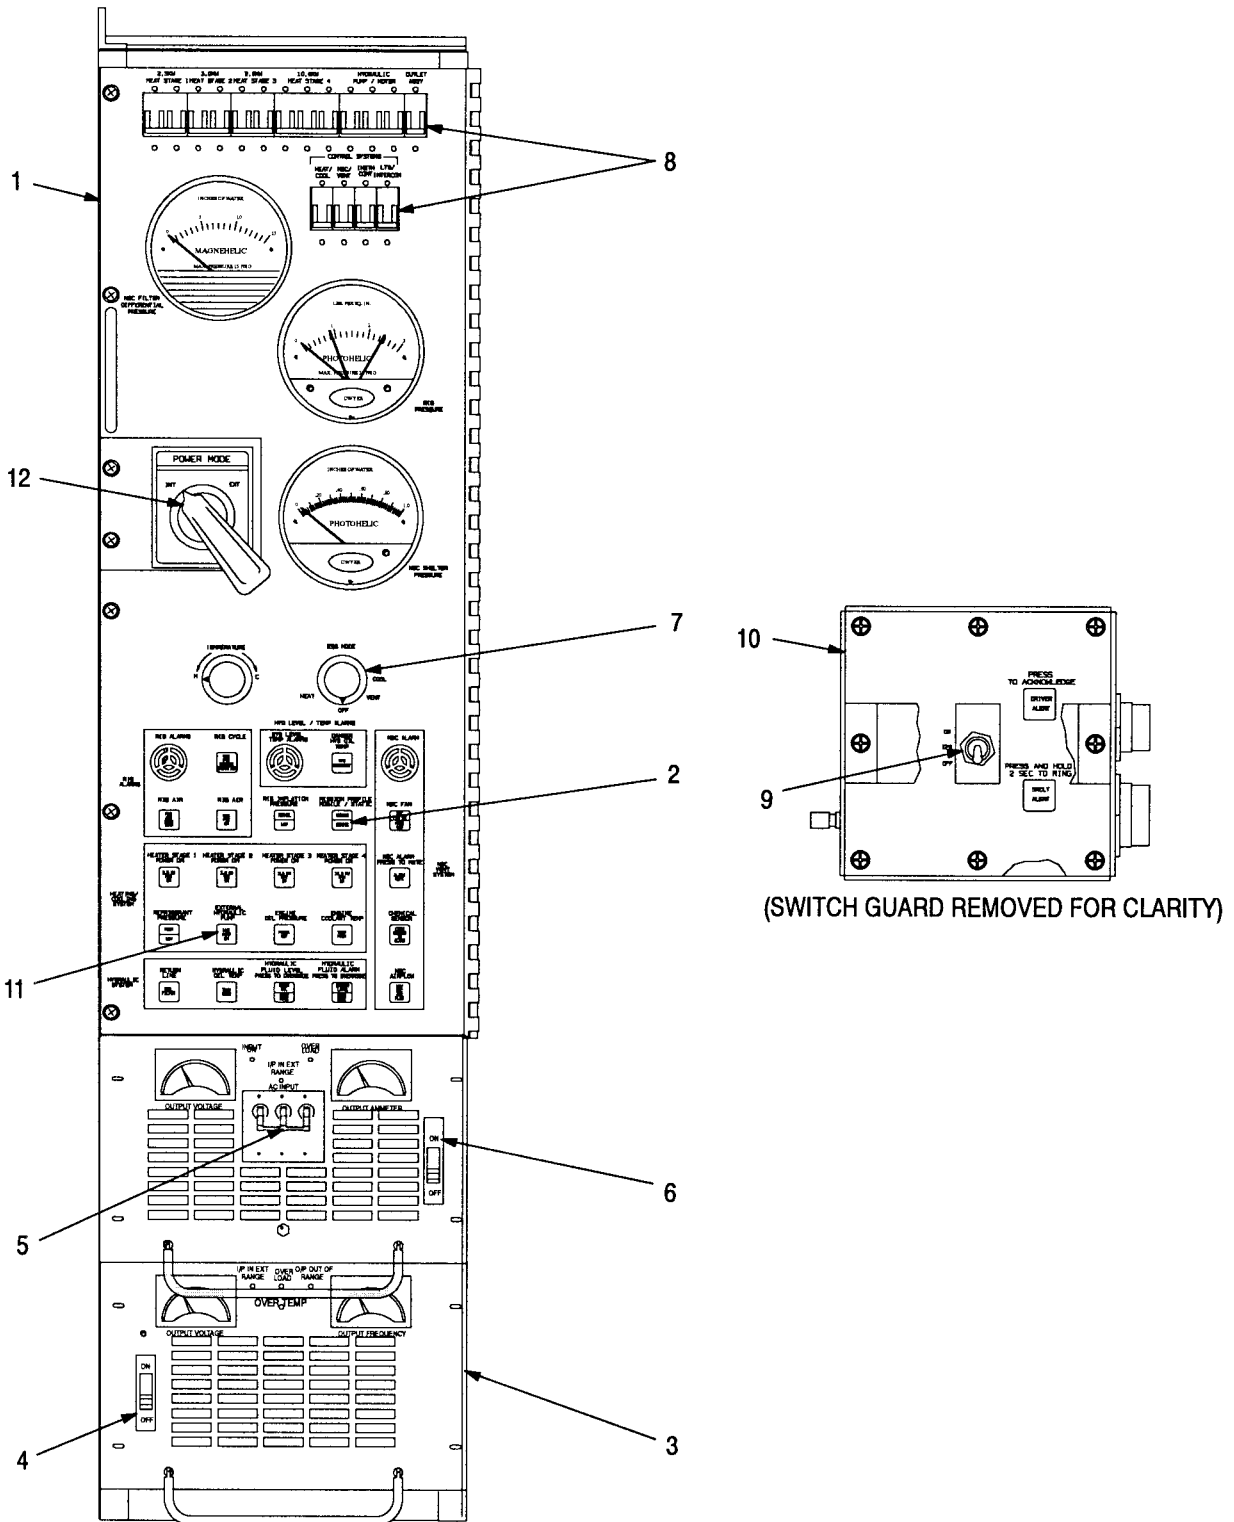

Figure 2-32. Static Mode Shut Down Settings
- (1) At rear control panel (1, figure 2-32) verify MISSION PROFILE switch (2) is set to MOBILE. MOBILE indicator light (white) should be on.
- (2) Set inverter (3) power switch (4) to OFF.
- (3) Set converter AC INPUT circuit breakers (5) and DC output switch (6) to OFF.
- (1) Set EXTERNAL HYDRAULIC PUMP switch (11, figure 2-32) to OFF. The HYD PUMP ON indicator (blue) turns off.
- (2) At rear control panel (1) check MISSION PROFILE switch (2) is set to MOBILE. MOBILE indicator light (white) should be on.
- (3) Set ESS MODE selector switch (7) on rear control panel (1) to OFF.
- (4) Turn off lights.
- (5) Set converter AC INPUT circuit breakers (5) and DC output switch (6) to OFF.
- (6) Set all rear control panel circuit breakers (8) to OFF.
- (7) Verify all switches on rear control panel (1) are set to OFF.
- (8) Signal cab crew to shut down TQG.
- (9) At rear control panel (1), set POWER MODE switch (12) to INT.